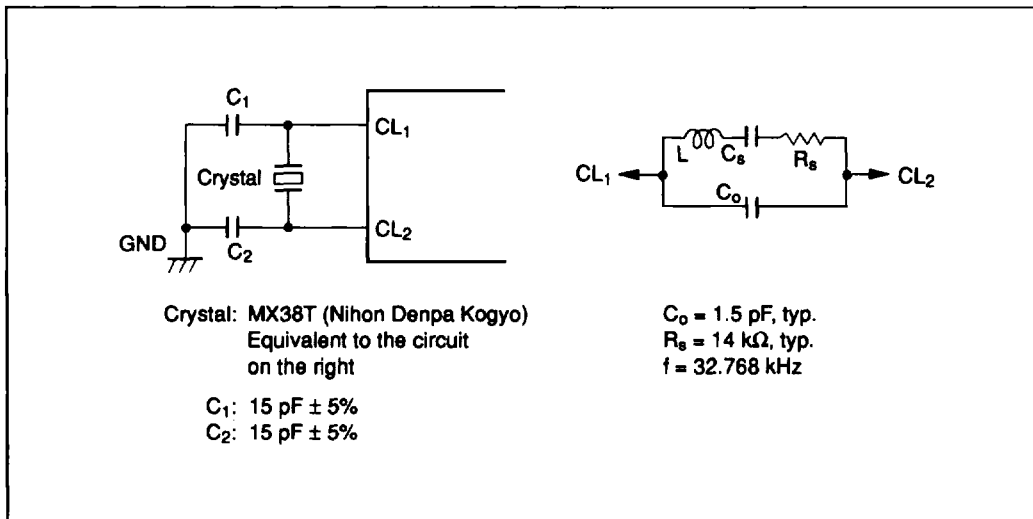

Figure 57 Oscillation Circuits (2)
2. The oscillation stabilization time is the period required for the oscillator to stabilize after  $V_{CC}$  reaches 3.0 V at power-on (figure 57). The oscillation stabilization time ( $t_{RC}$ ) must be ensured. If using a crystal oscillator, contact the manufacturer to determine what oscillation stabilization time is required, since it depends on the circuit constants and stray capacitances.